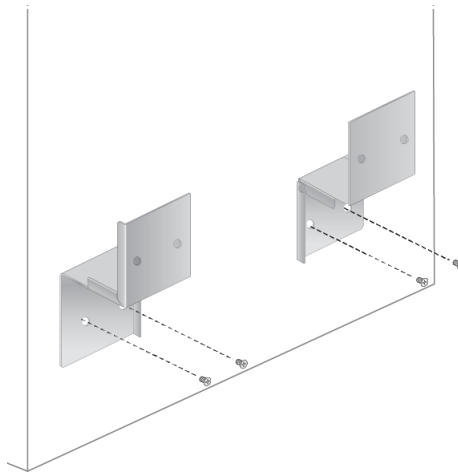

Figure 24. Attaching Brackets with Screws
8. Position brackets on the wall and drive screws through the holes to attach the brackets on the wall. See Figure 24.